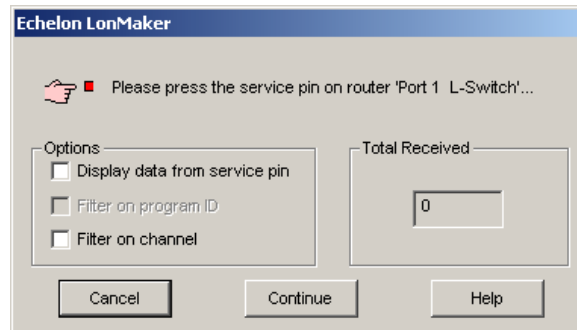

Figure 7: Press the service pin
8. If “Service Pin” was selected in the last dialog the dialog shown in Figure 7 appears. Pressing the status button longer than 2 seconds will allow you to select the port that sends out the “Service Pin Message”. If you continue to hold the button the first port will be selected and its port LED will light up orange. After 2 seconds the next available port will